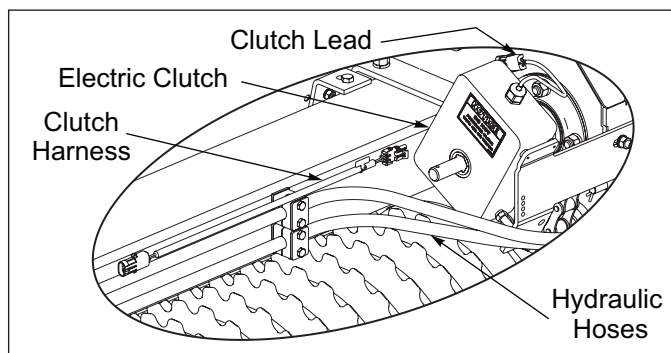

Figure 2-22: Clutch Harness
2. Connect Clutch Harness or Seeder Harness 2-Pin Connector to Clutch Lead and route along Frame and Drawbar/3-PT Hitch. Secure to Frame and Drawbar/3-PT Hitch or to Hydraulic Hoses and Warning Lamp Harness with tie wraps. **See Figure 2-22.**